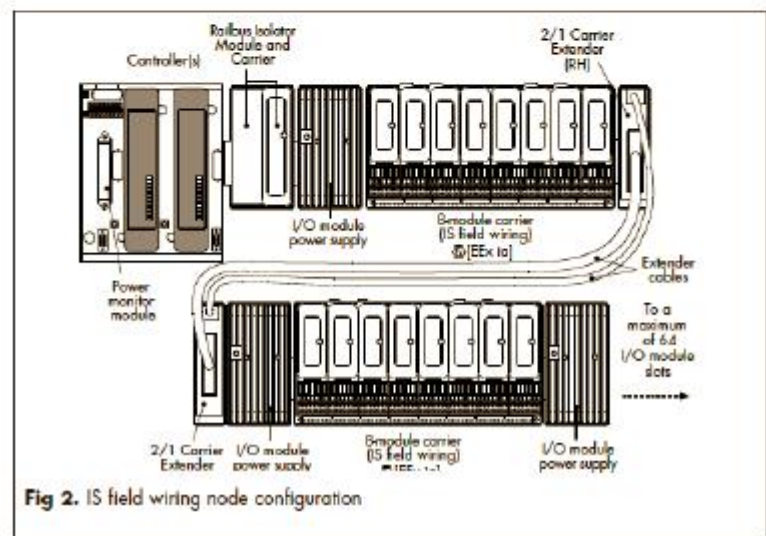

Fig 2. IS field wiring node configuration
The 8000 Process I/O System is capable of supporting I/O modules with intrinsic safety (IS) field wiring, for connection to certified or 'simple apparatus' field devices in Division 1 or Zone 0 hazardous areas (see Figure 2). A range of I/O module types with IS field circuits for industry-standard DI, DO, AI and AO applications is supported.